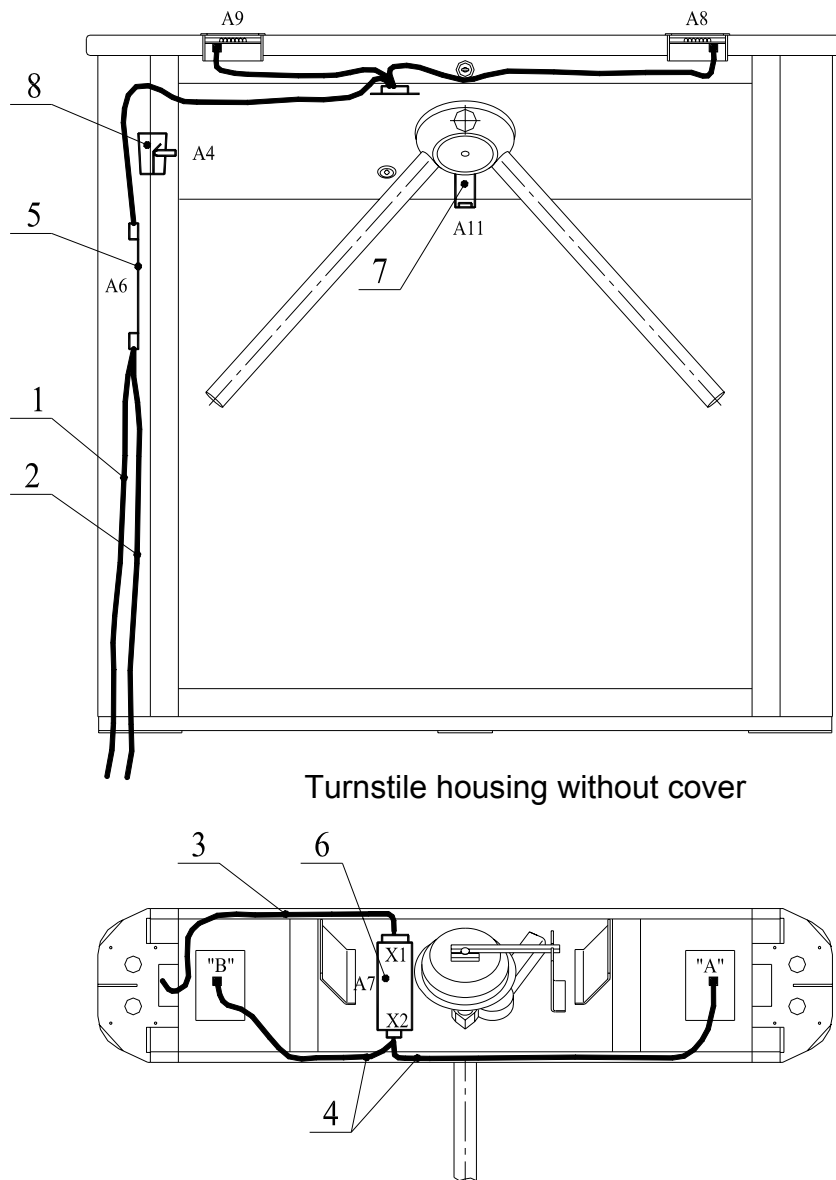

Fig. 11. Cables layout inside the turnstile housing
5.11.2 In case of unauthorized access signal “Ready” is formed as follows. At arm rotation at 8° one of the optical sensors (see Fig. 11) responds and the output contacts “Ready” and “Common” get broken (beginning of the signal). When the barrier arms reset into initial state the both optical sensors become normalized and the output contacts “Ready” and “Common” get closed (finish of the signal).
Note! To get an access to the mounting holes of the turnstile housing base (4) remove the turnstile housing cover (1) and both outer panels (2) (see Chapter 6). Thus you get an access to the mounting holes of the turnstile housing base (4). If you lay the cables under the floor surface, prepare the electric raceway to the cables laying zone of the turnstile housing. Fix the turnstile housing after laying the cables in the electric raceway and inside the turnstile housing. The cables layout inside the turnstile housing is shown in Fig. 11.
8.4.4 Install the turnstile power supply (11) in its place (installation procedure for the turnstile power supply is given in the power supply certificate).